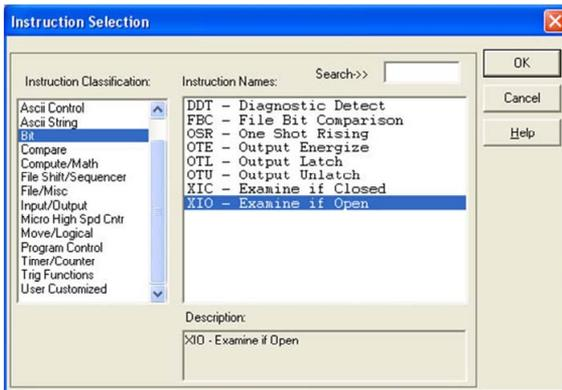

Figure 102: XIO Instruction Selection
- b) Select the "XIO" instruction from the "Bit" classification, then click OK. Refer to Figure 102.